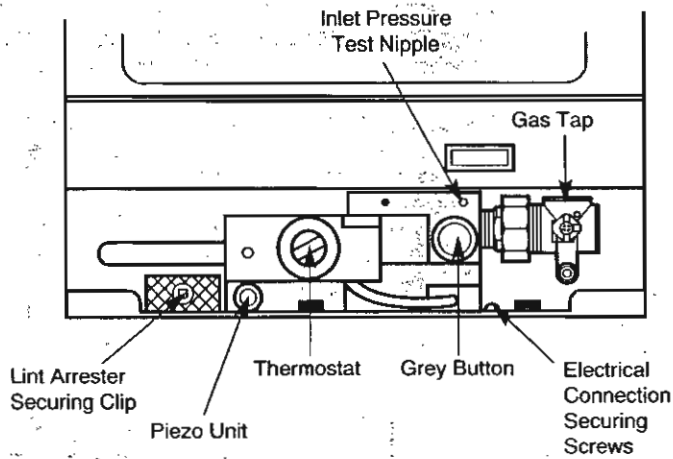
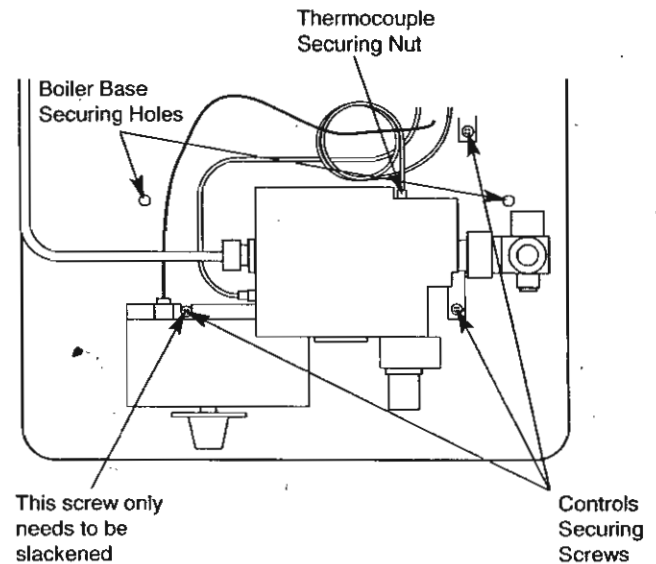

Fig. 9. Boiler Controls
Fig. 10. Securing Screws and Controls
5. Remove the screw securing the controls connection plug, unclip the wiring, and disconnect the plug and the inlet socket (Fig. 9).
8. Remove the burner and controls complete (3 screws - Fig. 10) and remove the clip securing the lint arrester to the base of the appliance (Fig. 9). Remove the lint arrester.
19. Turn the thermostat to the "OFF" position (Fig. 9).
### Pilot / A.S.D. Assembly (Fig. 10)